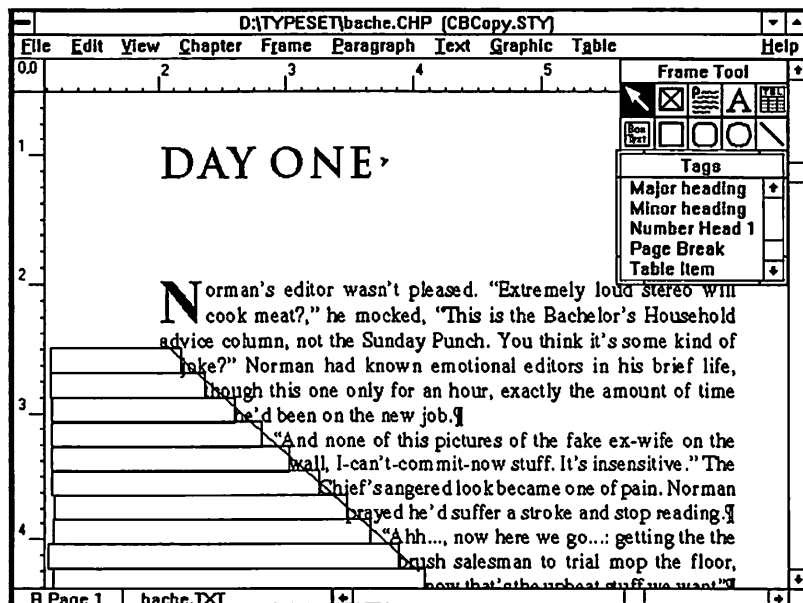

FIGURE 1-43 A staircase of line-height frames in Ventura creates text with an angled left margin.
3. Using the diagonal line you've drawn as a guide, create a stairway of separate frames, each a line space in height, from the left margin to the diagonal line (Figure 1-43). The Line Snap will make this